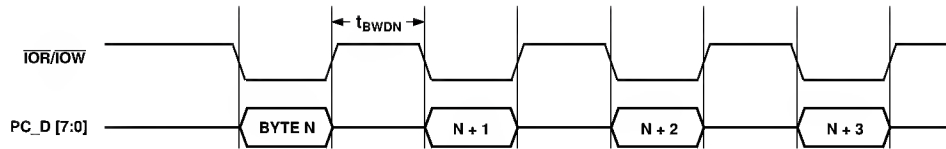

Figure 7. Codec Transfers
After setting format bits, sample data into the AD1817A must be ordered according to Figure 7, Table V.
- CFMT [1:0] (RW) Capture Format. Use these bits to select the format for capture data according to the following Table V and Figure 7.